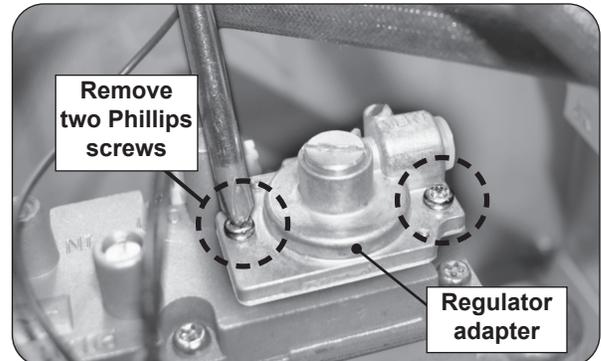

Fig. 4-4 Unfasten regulator adapter
7. Use a small Phillips screwdriver to remove the two screws on the regulator adapter (see Fig. 4-4).